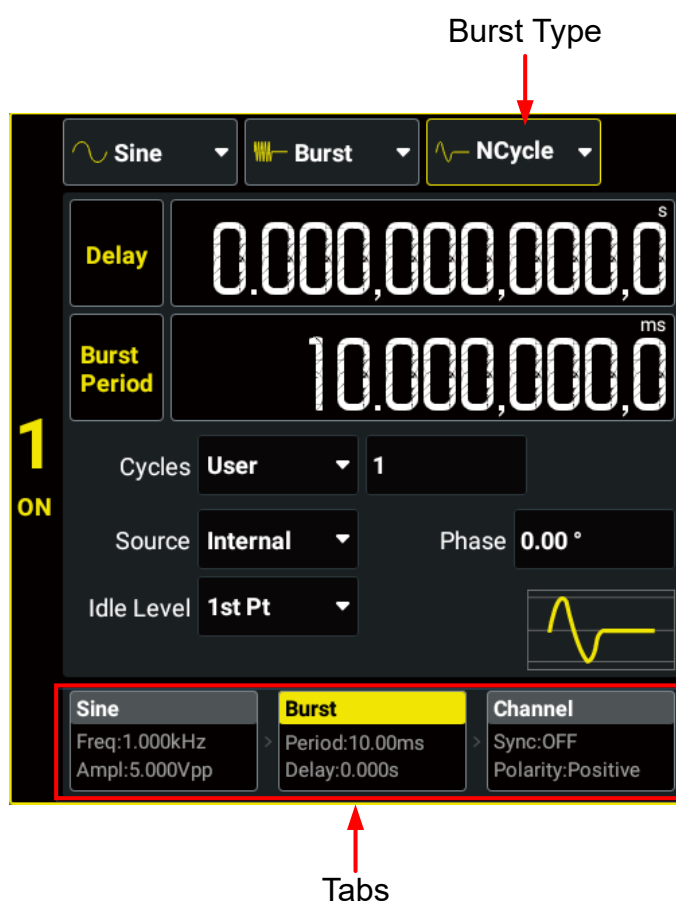

Figure 8.1 Burst Setting Interface
DG900 Pro can output two types of bursts: N-Cycle Burst (default) and Gated Burst. In the Burst Setting Interface (*Figure 8.1*), click or tap the "Burst Type" drop-down button to select "NCycle" or "Gated". The table below illustrates the trigger sources and waveform parameters available for the two burst types.
- **Manual:** Manual trigger is only available for N-Cycle Burst mode. When manual trigger is selected, click or tap the manual trigger key  in *Figure 8.1* interface or press the front-panel  key to initiate a burst output immediately. If the output of the corresponding channel is not enabled, the trigger will be ignored.